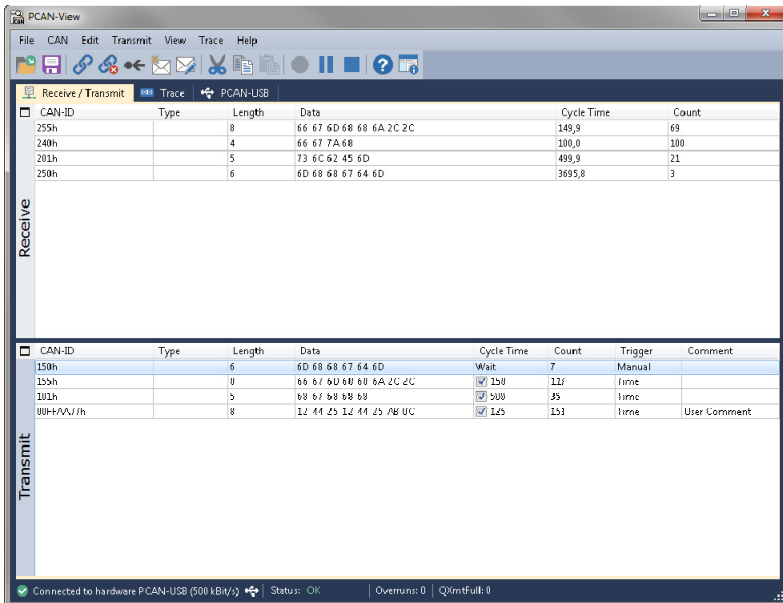

Figure 5: Receive/Transmit tab
6. Finally, confirm the settings in the dialog box with **OK**. The main window of PCAN-View appears (see Figure 5).